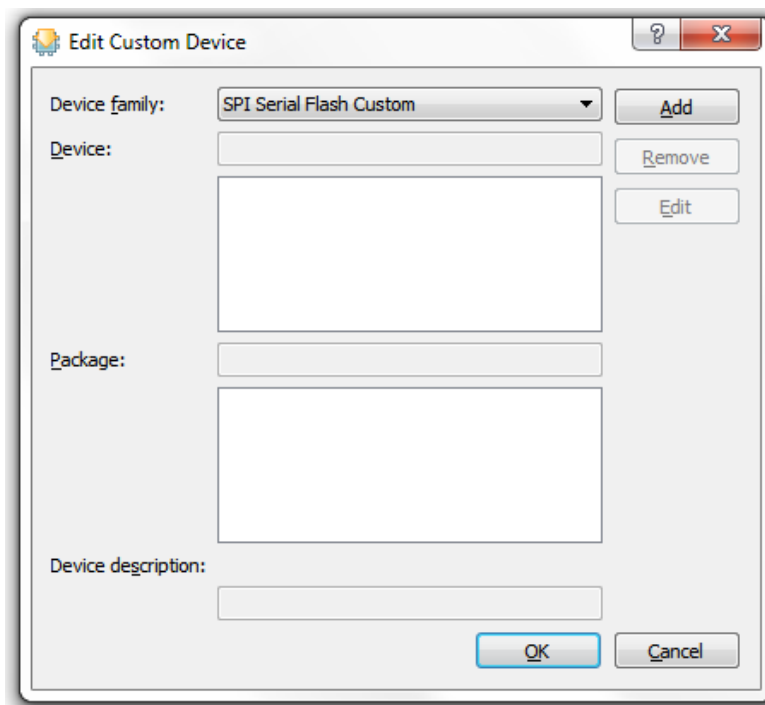

Figure 3.2. Edit Custom Device Dialog
2. In **Programmer**, choose **Edit > Custom Devices**. The **Edit Custom Device** dialog pops up (Figure 3.2).